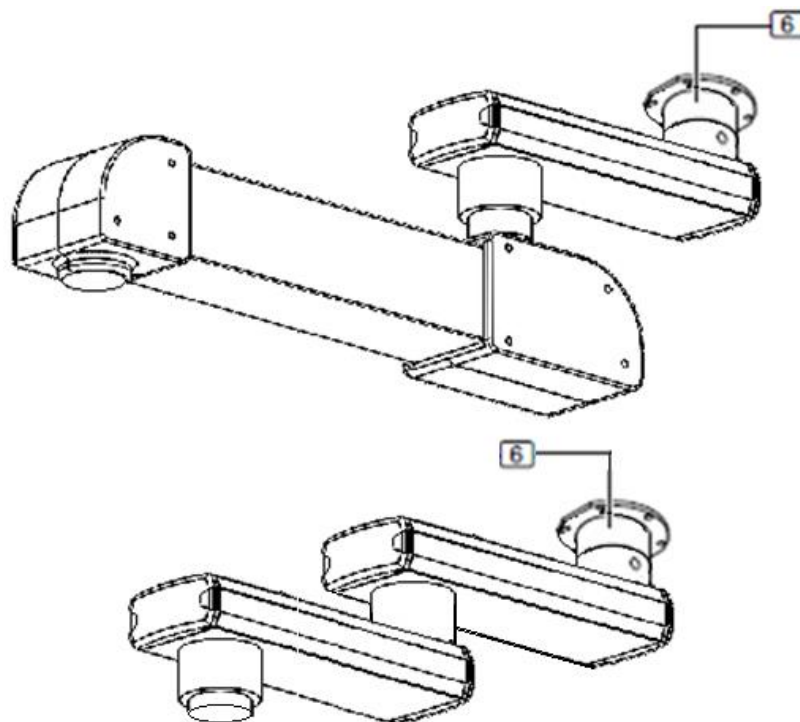

Fig. 13 S-COLUMN and S-COLUMN double-arm MOTOR
- Set the distance between the M16 hex nuts ② and the interface plate (1) to 150mm.
- Screw the hexagon nuts M16 ② onto the M16 threaded bolts ① at the calculated distance L.
- Using a digital spirit level, align the M16 hex nuts ② horizontally.
- Fit 1 flat washer with an outer diameter of 34 mm ③.
- Place 1 plastic insulating disc ④ (as shown in figure 13) in such a way that the flat washer with an outer diameter of 34 mm ③ sits on the plastic insulating disc ④.